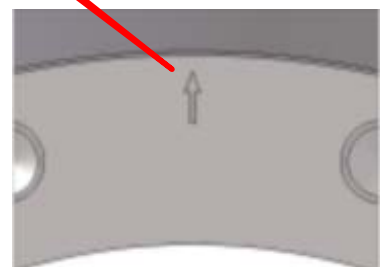

Fig. 8a
- c. Fit the disc seal gasket and disc seal ensuring the alignment mark on each component is in the correct position in relation to the valve body. (see fig. 8a)